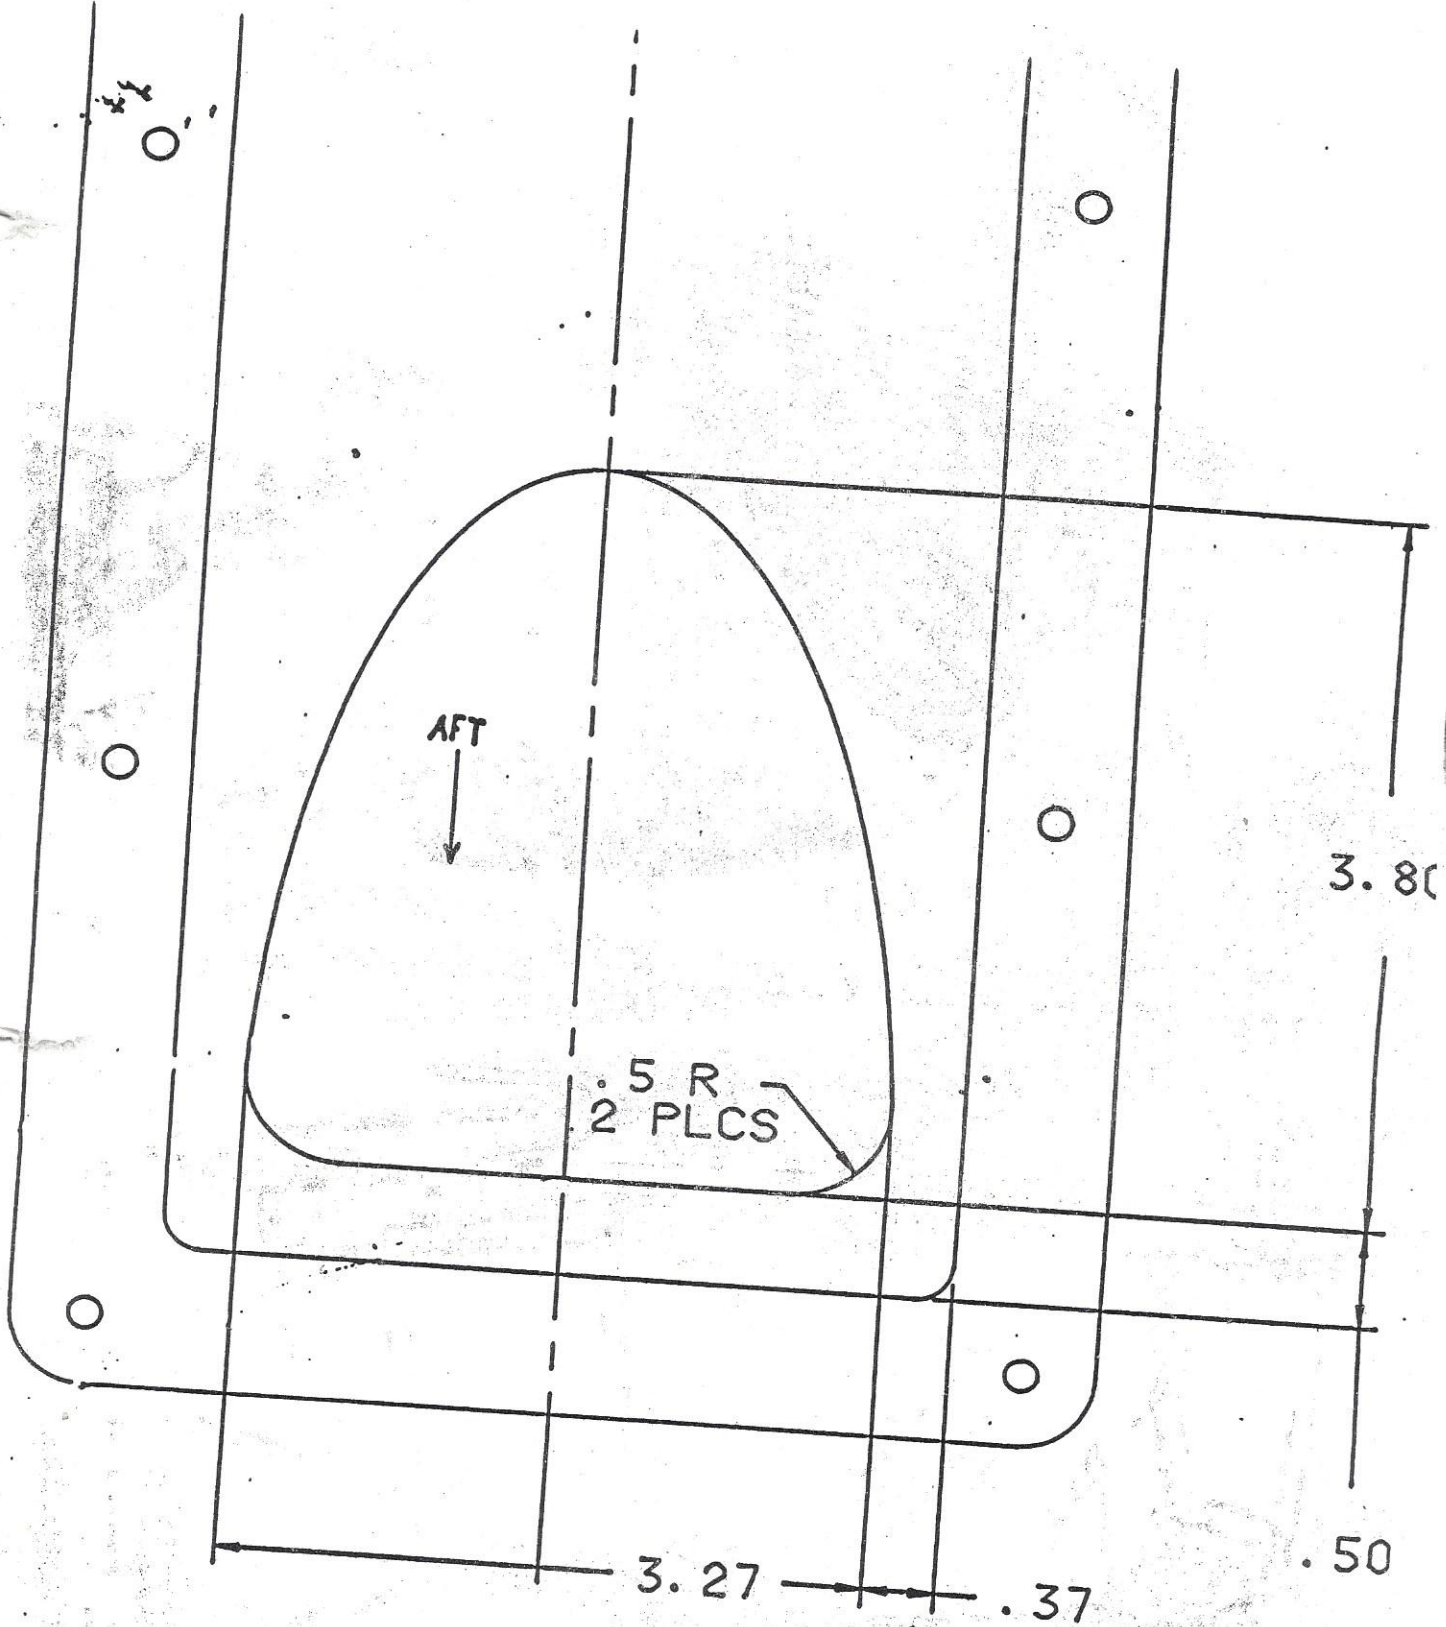

FIGURE 4
- E. NOSE GEAR BOOT CUT-OUT (FIGURE 4)
- E-1 Using the templet provided, locate and cut a hole in the rear of the P/N 5702003-3 nose gear boot per (FIGURE 4) to create a -4 boot.